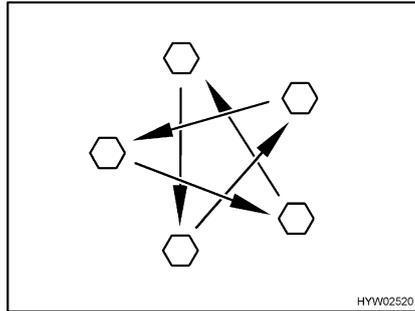

Fig. 320 Tighten the wheel nuts or wheel bolts cross-wise
- Check regularly that the wheel nuts or wheel bolts are firmly seated. Re-tighten the wheel nuts or wheel bolts of a changed wheel after 50 km (30 miles) (Fig. 320).
- When using new or newly painted rims, re-tighten the wheel nuts or wheel bolts once again after approx. 1,000 to 5,000 km (600 miles to 3,000 miles) (Fig. 320).
- ▷ Tighten the wheel nuts or wheel bolts cross-wise (Fig. 320).